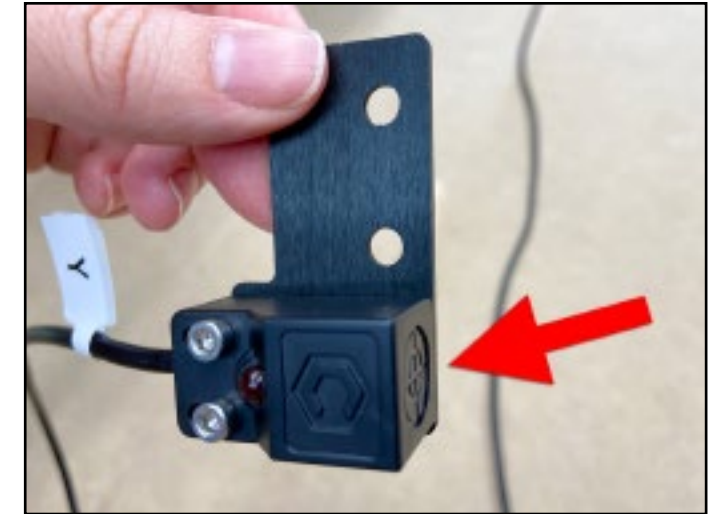

Figure 7-7
2. Align the switch and plate, with the switch facing right and the plate's two PEM nuts in the **BOTTOM-LEFT** corner. Flush the face of the switch with the edge of the plate. See **Figure 7-7**.
3. Use the 2.5mm hex key and two (2) M3x18mm socket head cap screws to attach the switch to the plate. Make sure the front edge of the proximity switch and plate stay flush. See **Figure 7-7**.